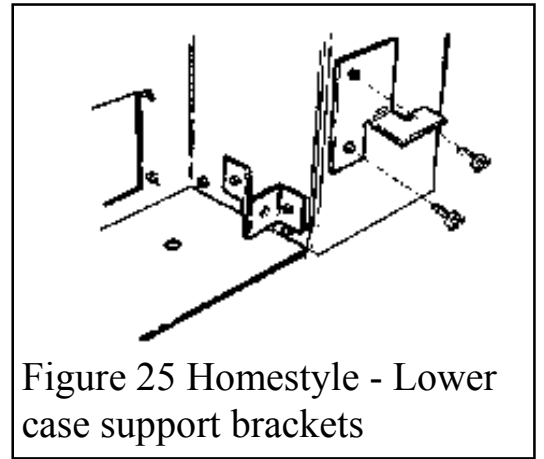

Figure 25 Homestyle - Lower case support brackets
1. Fit the two lower case support brackets near the bottom of the convection box side flanges. Note the orientation as shown in figure 25.